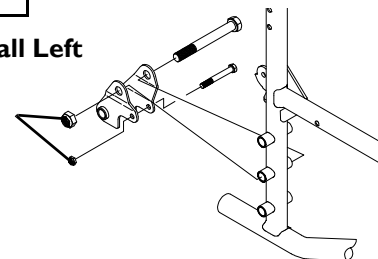

FIGURE 7 Installing Amputee Bracket - Non-Recliner Wheelchairs - 9000XDT
1. Refer to the following chart or FIGURE 7 to determine the mounting position of the amputee bracket: